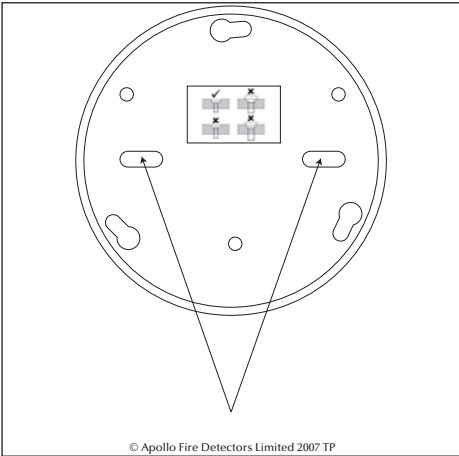

Fig 1 Mounting Details
2. The ceiling mounting plate must be fitted using both mounting holes and **suitable fixings or fasteners** (see **Fig. 1**).